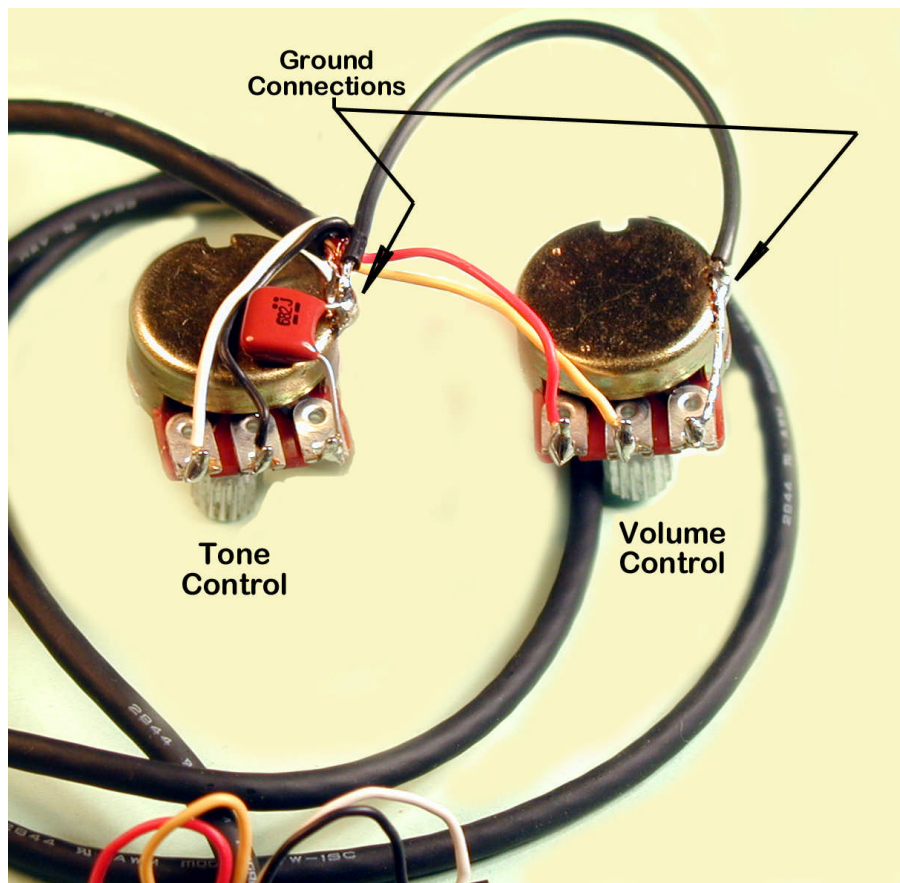

Figure 2 - Wiring up the potentiometers
5. Wire the cable to the controls. Refer to Fig.2.